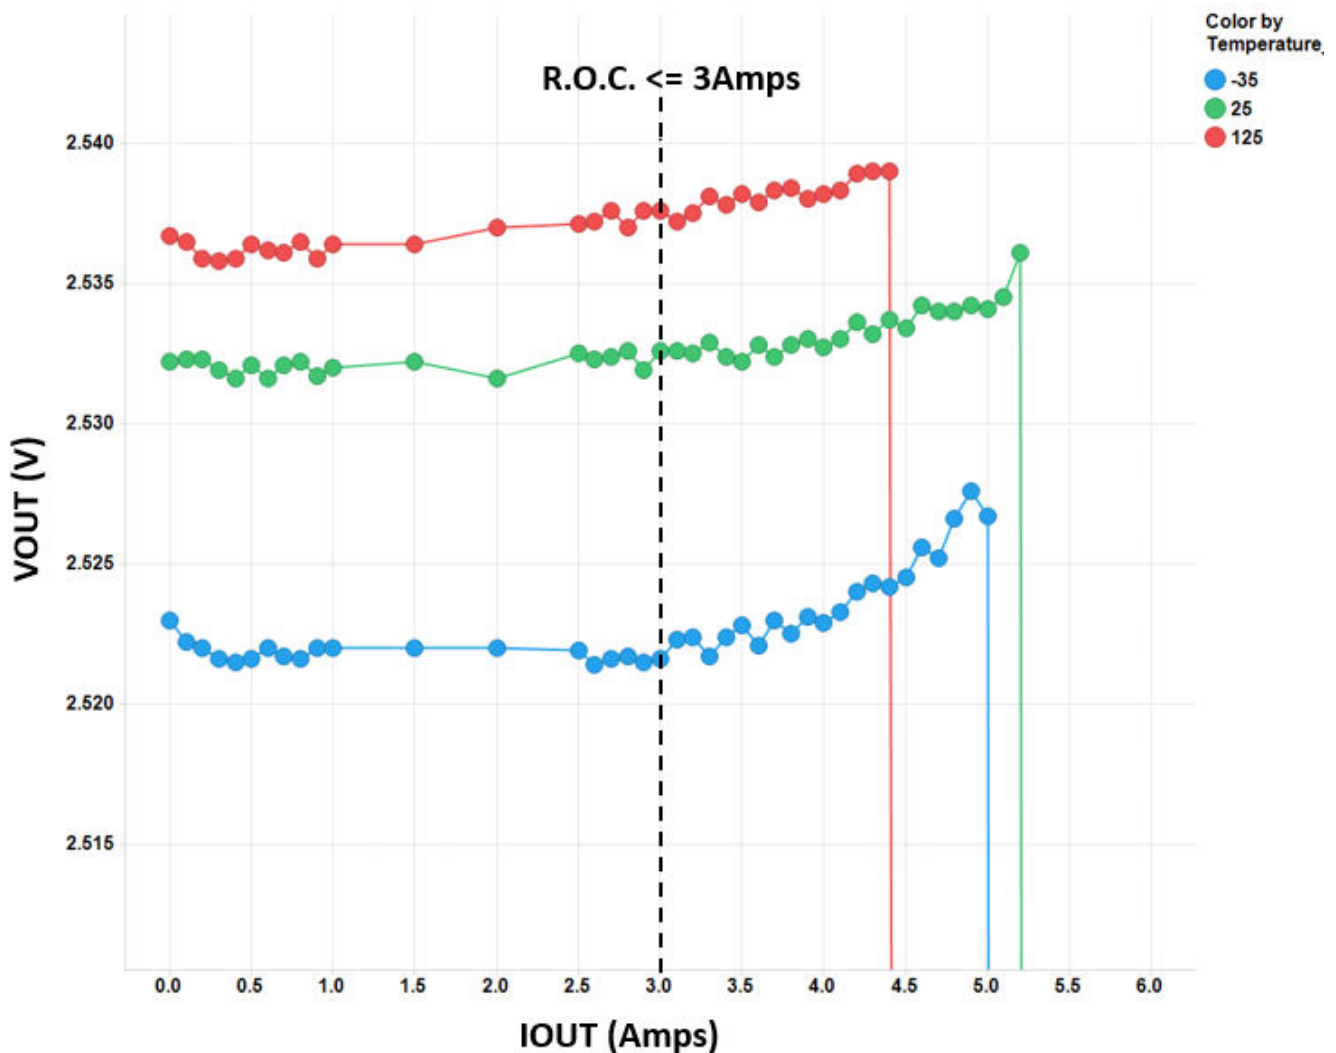

Figure 4-1. Output Voltage Regulation
- Turn on the e-load and sweep the load current from 0 A to 3 A, or higher to observe the margin the device has to the recommended operating condition of 3-A maximum. The monitored output voltage at TP17 (VOUT) is at or near 2.5 V across the entire current load sweep as shown in Figure 4-1.